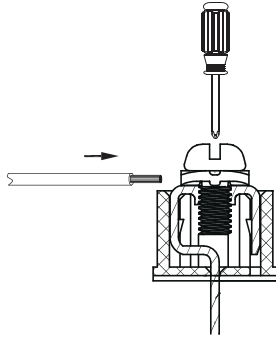

Fig. 22 —Connecting Communication Wire to Outdoor Unit Communication Terminal
- Use a suitable screwdriver to fix the communication wire on the outdoor unit communication terminal as shown in Fig. 22.